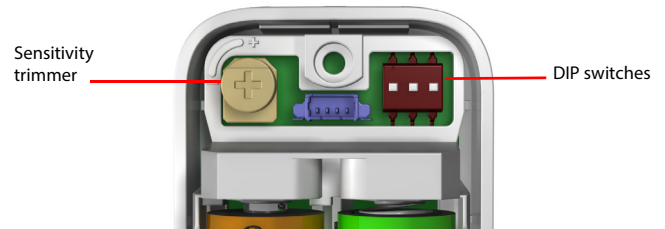

Figure 6 – Adjusting the settings
7. Set **Range/PIR Sensitivity** level: Turn the **Sensitivity Trimmer** (see Figure 6 above) to select the required level as displayed below..